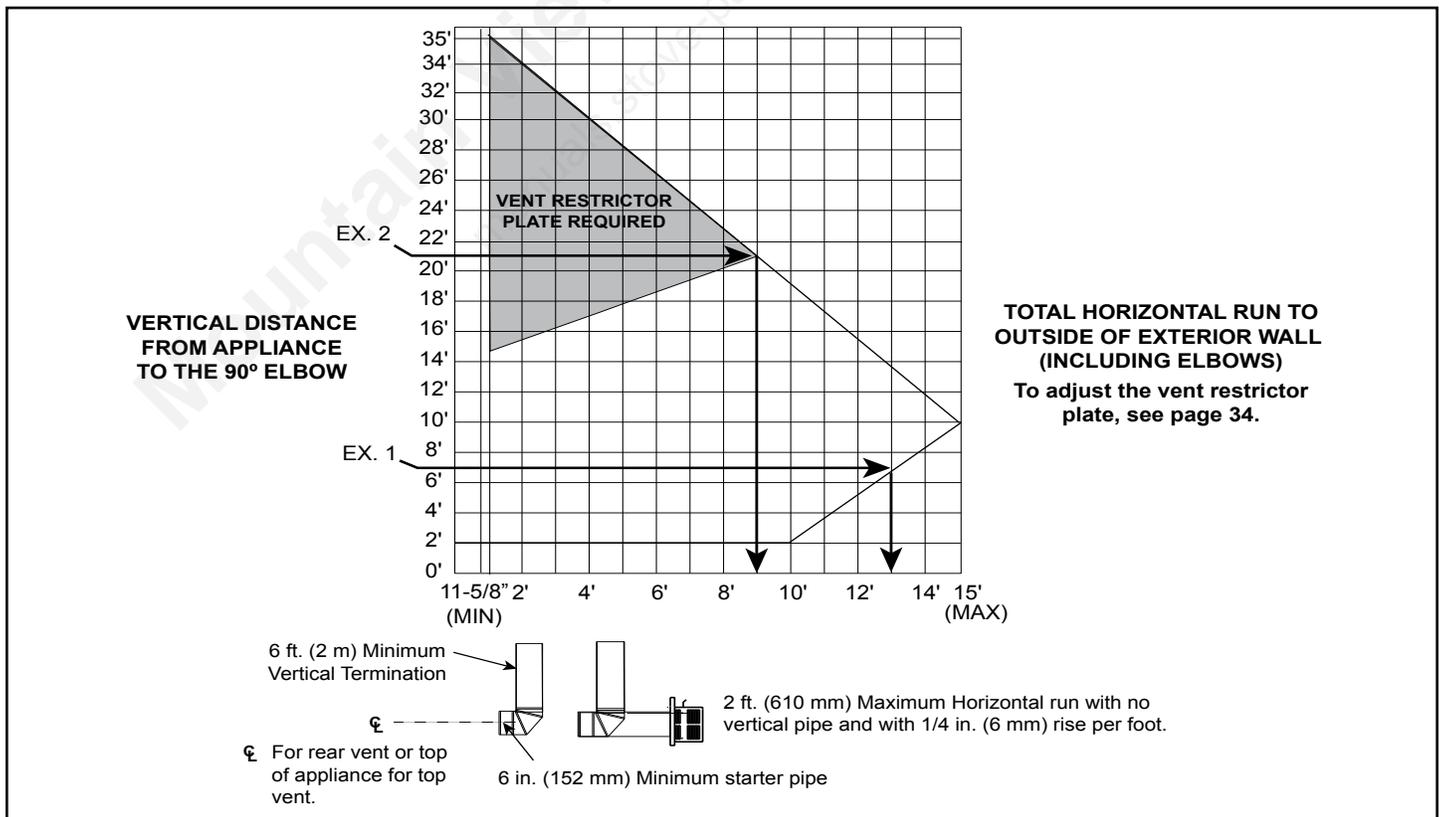
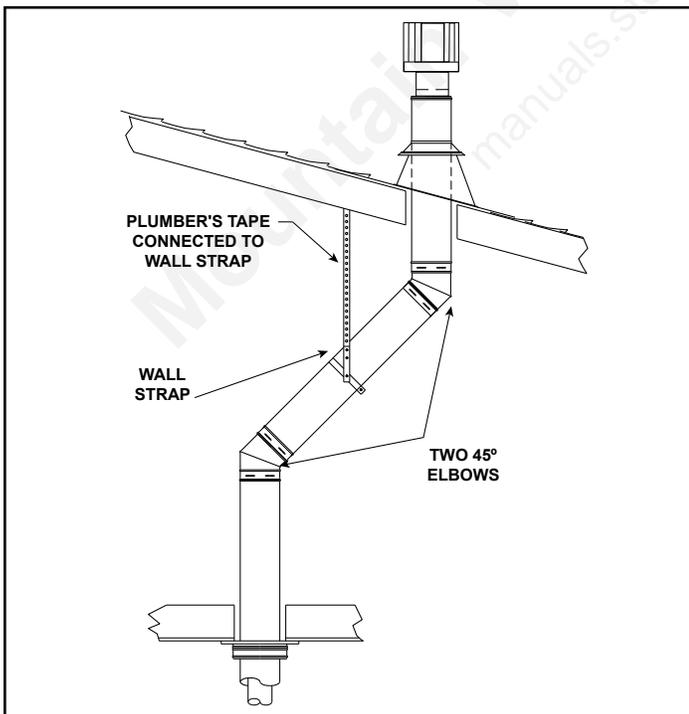

Figure 5.2
Figure 5.11
- Check the installation instructions for required 1 in. (25 mm) clearances (air space) to combustibles when passing through ceilings, walls, roofs, enclosures, attic rafters, or other nearby combustible surfaces. Check the instructions for maximum vertical rise of the venting system, and any maximum horizontal offset limitations. All offsets must fall within the set parameters of the vent graph (Figure 5.2).
Note: Maximum vertical rise allowable is 40 ft. (10.7 m), Figure 5.11. Maximum number of 45° elbows permitted for a vertical installation is eight, provided their installation does not decrease maximum allowable horizontal run (as specified by vent graph, Figure 5.2).
- Set the gas appliance in its desired location. Drop a plumb bob down from the ceiling to the position of the appliance flue exit, and mark the location where the vent will penetrate the ceiling. Drill a small hole at this point. Next, drop a plumb bob from the roof to the hole previously drilled in the ceiling, and mark the spot where the vent will penetrate the roof. Determine if ceiling joists, roof rafters, or other framing will obstruct the venting system. You may wish to relocate the appliance, or to offset, as shown in Figure 5.11 to avoid cutting load bearing members.
- If an offset is necessary in the attic to avoid obstructions, it is important to support the vent pipe every 3 ft. (914 mm) to avoid excessive stress on the elbows, and possible separation. Wall straps are available for this purpose, Figure 5.11.